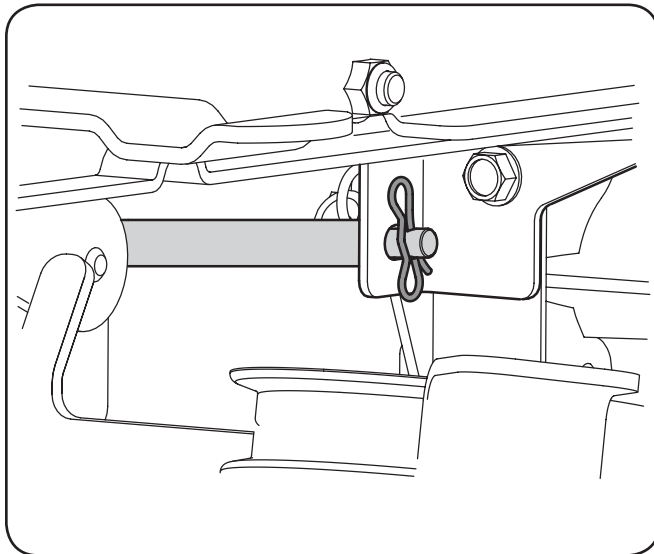

Figure 7-5
- On 50" Decks:** Remove the bow-tie cotter pin connecting the deck sway rod to the tractor frame. See Fig. 7-5.